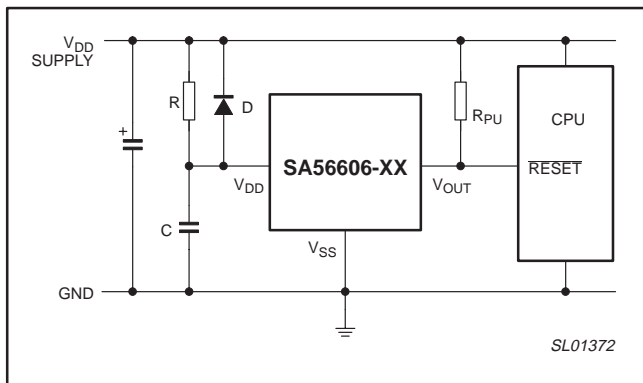

Figure 15. Power ON reset circuit.
The Power ON Reset Circuit shown in Figure 15 is an example of how to obtain a stable reset condition upon power-up. If the power supply voltage rises abruptly, the  $\overline{\text{RESET}}$  may go HIGH momentarily when  $V_{\text{DD}}$  is below the minimum operating voltage (0.95 V). To overcome this, a resistor (R) is placed between positive supply and the  $V_{\text{DD}}$  pin with a capacitor from the  $V_{\text{DD}}$  pin to ground.